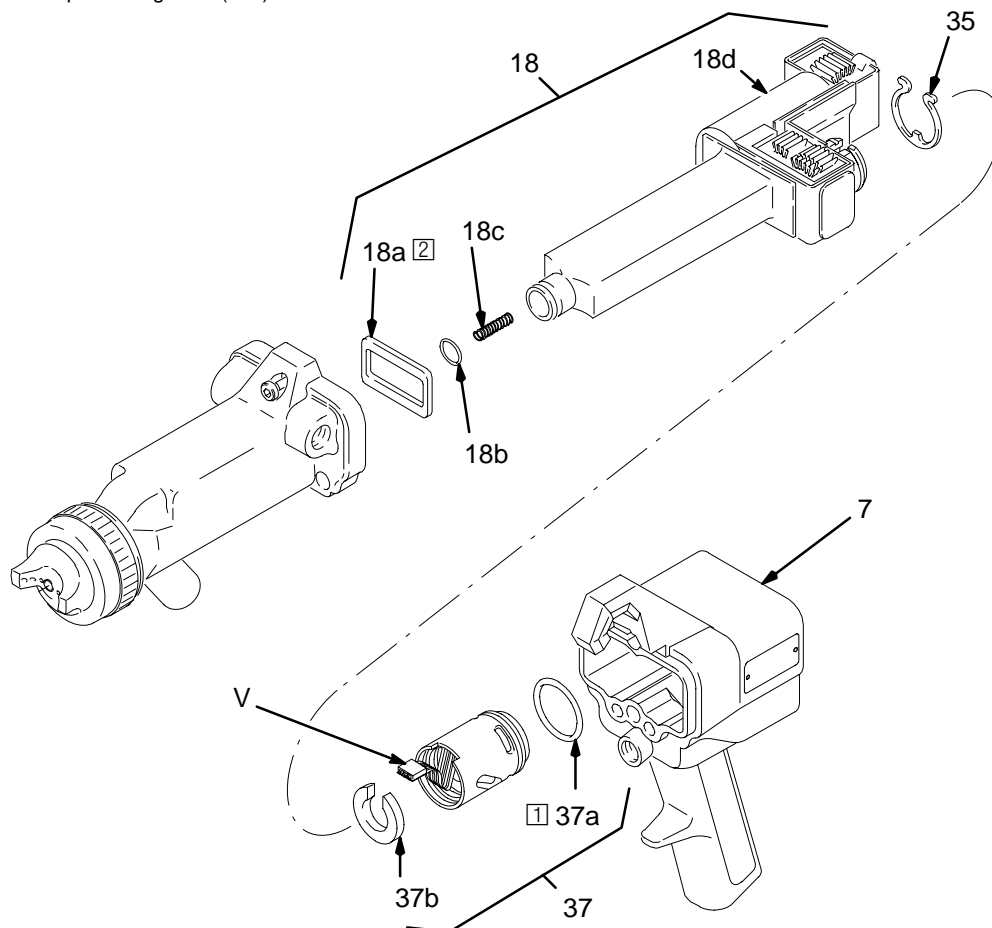

Fig. 27
3. Grasp the power supply with your hand. With a gentle side to side motion, loosen the power supply from the gun handle (7), then pull it straight out. See Fig. 27.
4. Squeeze the two ends of the retaining ring (35) together, and carefully pull the alternator (37) away from the power supply (18) until the connector (V) disengages. See Fig. 27, page 40.
5. Use an ohmmeter to test the turbine alternator coil. Measure the resistance between the two outer terminals of the 3-wire connector (V). The resistance should be 3 to 5 ohms. If the resistance varies from this value, replace the alternator.
6. Measure the resistance between each outer terminal of the 3-wire connector (V) and the turbine alternator (37) housing. The resistance should be infinite. If the resistance is not infinite, replace the alternator.
7. Connect the 3-wire connector (V) to the 3 prongs in the power supply (18). Push the alternator (37) onto the power supply until the retaining ring (35) engages with the alternator.